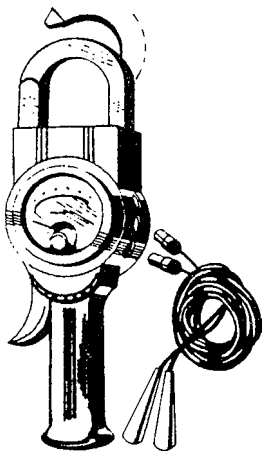

FIGURE 16-5. AC clamp-on meter.
The alternating current (AC) clamp-on meter is inserted over a wire carrying AC. The magnetic field around the wire induces a small amount of current in the meter. Because the wire is run through the large loop extending past the meter movement, it is possible to read the current without removing the insulation from the wire. These meters are very useful when working with AC motors and other high-current devices. Volts can be measured by using test leads and probes that fit into holes on the side of the meter. See Figure 16-5.